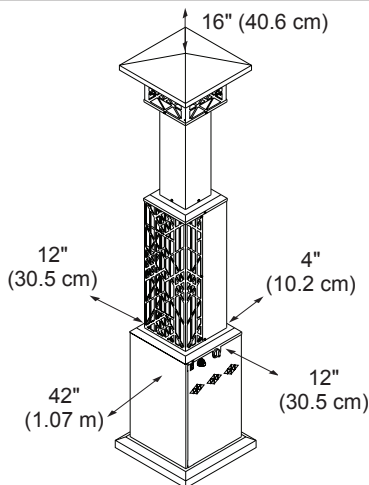

Figure 1 - Clearances from Combustibles
- Minimum heater clearances from combustibles: Back 4" (10.2 cm), Sides 12" (30.5 cm); Front 42" (1.07 m); Top 16" (40.6 cm) (see Figure 1).